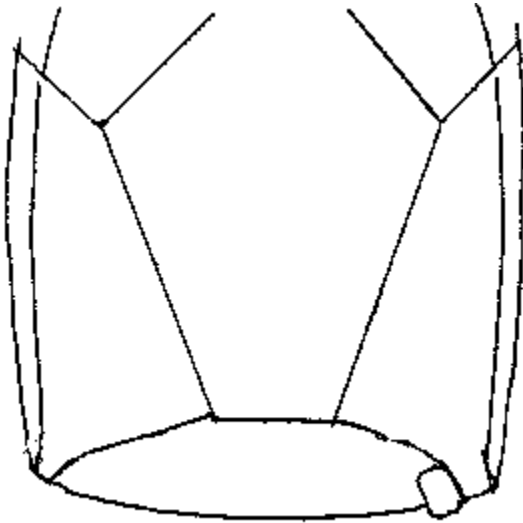

Figure 2-28
Step 32 Close the top flap protector by tucking the “shark’s tooth” underneath the flaps as shown in *Figure 2-28*.